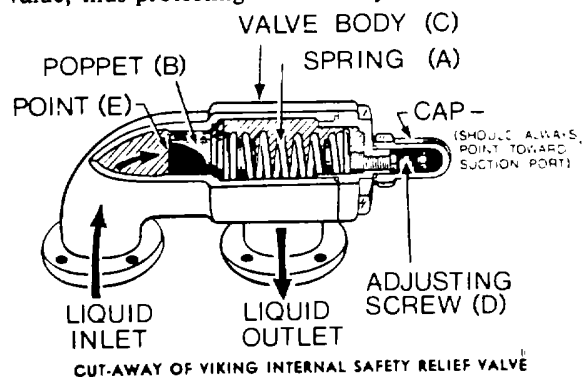

FIGURE 4
The safety relief valve mounted on Viking pumps and most in-line valves are of the spring loaded poppet design. See Figure 4. The spring (A) holds poppet (B) against the seat in the valve body (C) with a given force determined by the spring size and by how tightly it is compressed by the adjusting screw (D). The